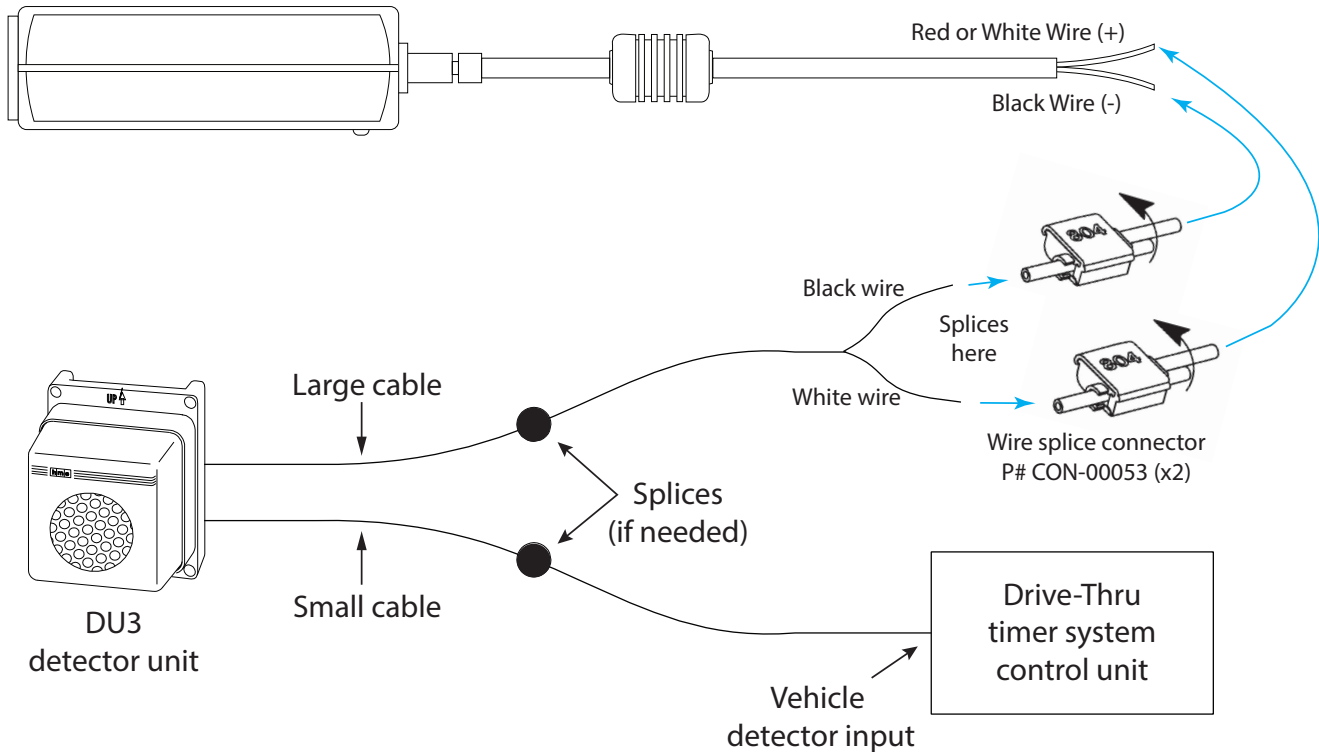

Figure 5. DU3 cable routing and connections
- Route the larger cable coming through the wall from the DU3 to the AC/DC power adapter. Use your preferred splicing method or a flat nose pliers and the blue 3M tap connectors (included with DU3 package) to splice the 16 AWG wires from the large cable to the 18 AWG wires from the AC/DC power adapter, as shown in Figure 5 (the black wire from the large cable splices to the black wire from the power adapter, while the white wire from the large cable splices to the red (or white) wire from the power adapter). See Appendix for 3M tap connector splicing instructions. Verify the spliced connection is good before continuing.